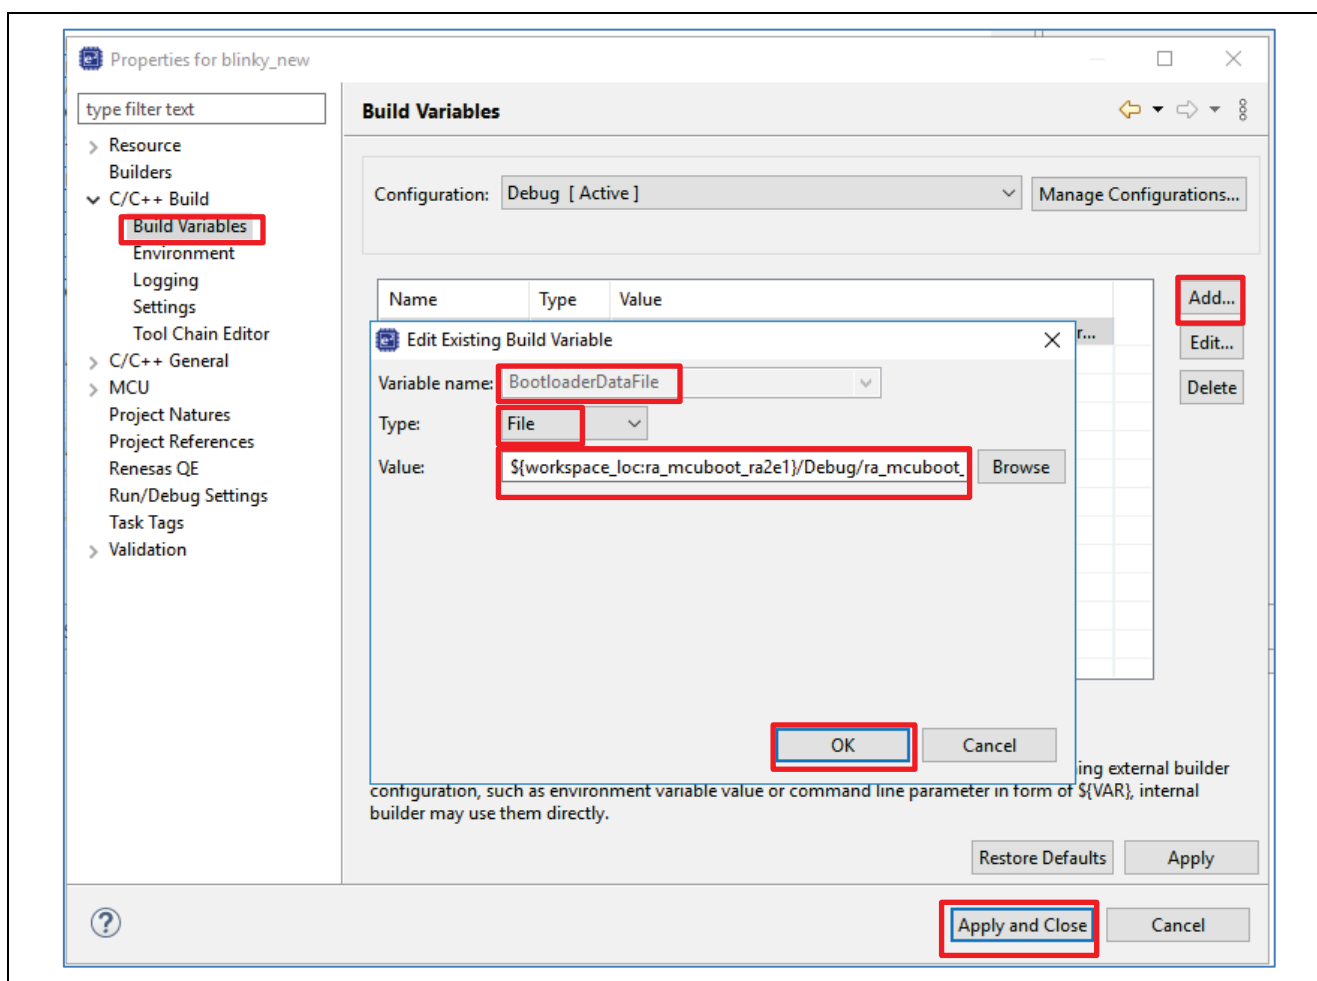

Figure 50. Configure the Build Variable to Use the Bootloader
- For example, for bootloader project ra_mcuboot_ra2e1 (see Figure 50), **Value** will be: